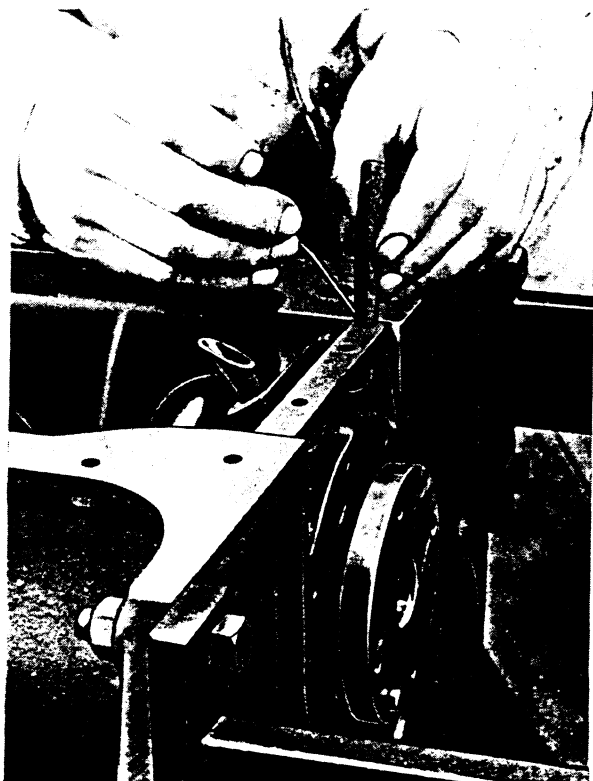

FIG. 47
9. Soak rear bearing cap felt seals in shellac and insert in their grooves, using a suitable rod as shown in Fig. 47.